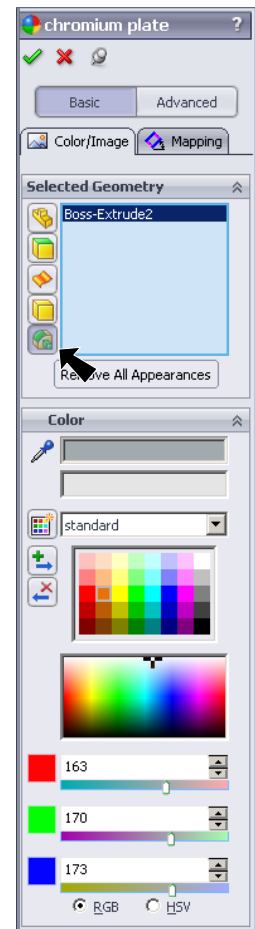

Fig. 21
Step 5. In the Appearances Property Manager, under Selected Geometry click **Select Features** , Fig. 21